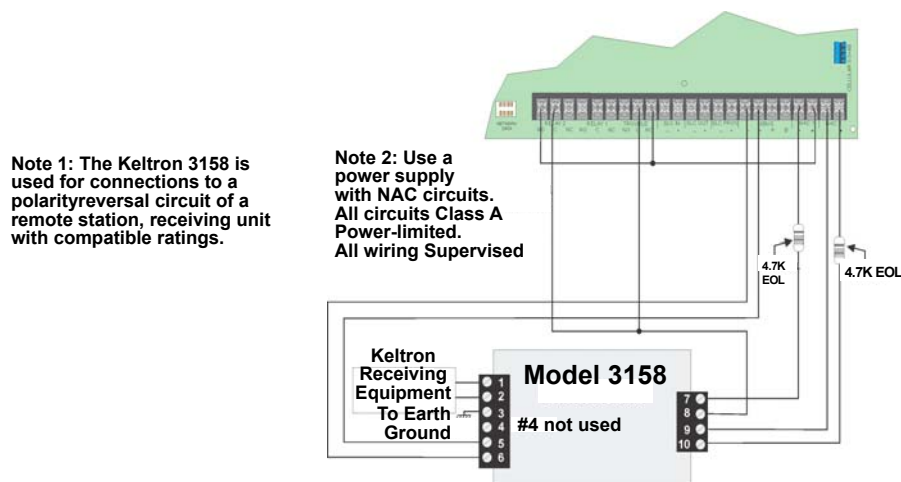

Figure 4.27 Keltron 3158 Connection to Fire Alarm Control Panel
1. Wire the Keltron 3158 to the fire alarm control panel as shown in the connection list and Figure 4.27.